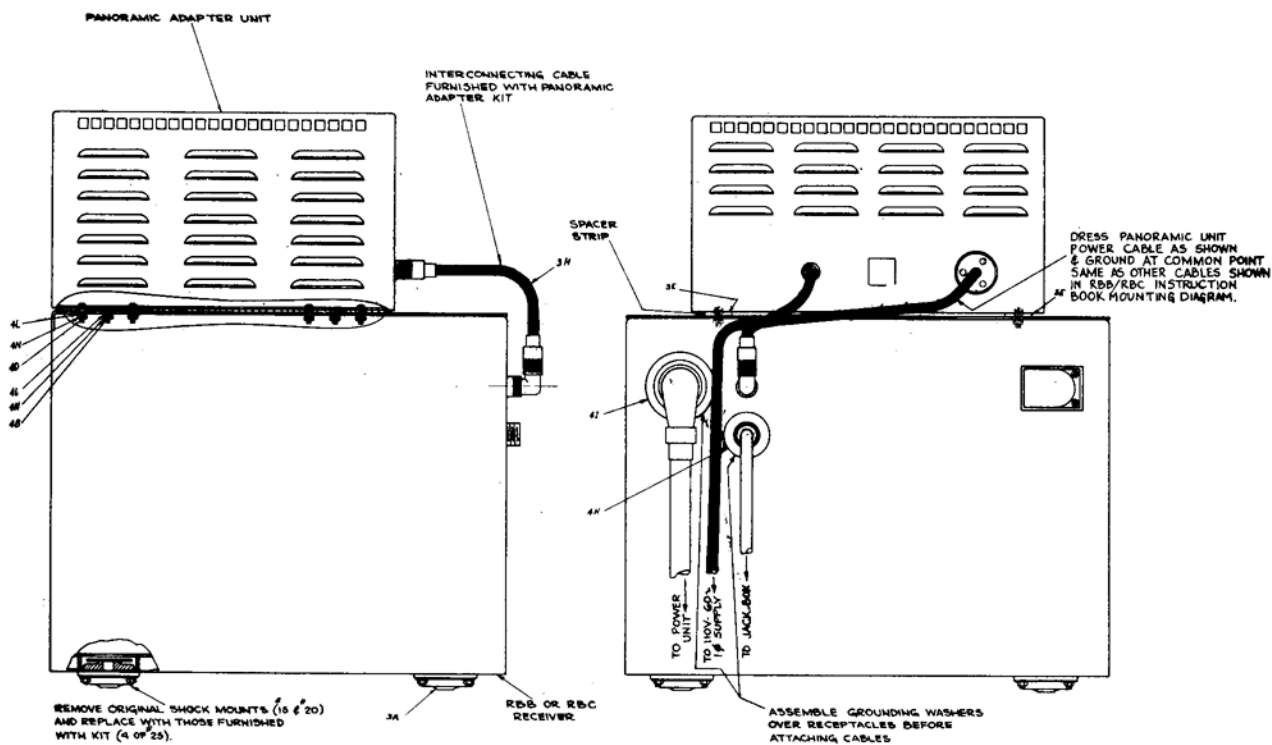
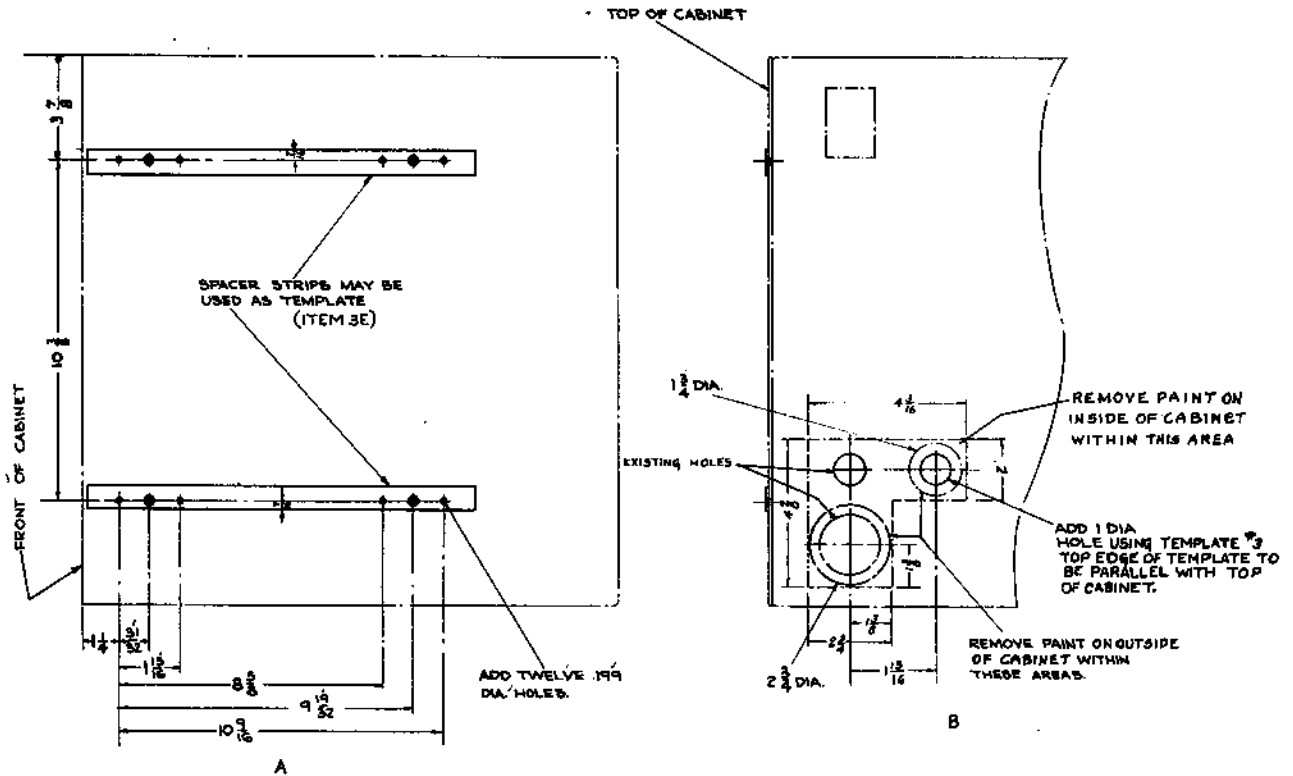

Figure 1-4—Panoramic Adaptor Unit and RBB/RBC Radio Receiver (Assembly Diagram T-621279)
Figure 2-3—Panoramic Coupling Kit, Type CLP-10335, Cabinet Drilling (Diagram P-722276)
tem by connecting the shield of J501 to the RBB/RBC receiver chassis. The filter output is connected to the Panoramic Adaptor Unit by means of a two-wire cable which is furnished with the kit (see Figure 1-4).
e. Remove the original shock mounts from the cabinet and replace with those furnished with the kit (item 3A). See Figure 1-4.
#### 4. Cabinet Drilling. (See Figure 2-3.)
a. Mount the two aluminum spacer strips (item 3E) in their proper positions on the receiver cabinet as shown in Figure 2-3. Four lockwashers (item 4L), four flathead screws (item 4B), and four nuts (item 4N) are used for this purpose. See Figure 1-4.
c. Bolt the Panoramic Adaptor Unit cabinet to the RBB/RBC radio receiver by means of the eight round head screws (item 4D). Replace the RBB/RBC and RBU/RBV chassis in their respective cabinets.
d. Connect the Panoramic Adaptor Unit to the RBB/RBC receiver by means of the cable which is supplied for this purpose (item 3H).
e. Connect the equipment to the power supply and insert the washer (item 4I) between the cable coupling nut and the back of the cabinet. See Figure 1-4.
f. Place the washer (item 4H) under the audio
output coupling nut in the same manner as described in paragraph "e." (See Figure 1-4.)
g. Dress the Panoramic Adaptor Unit power cable as shown in Figures 1-4 and 2-6, and ground the metal shield to the rear of the operating table.